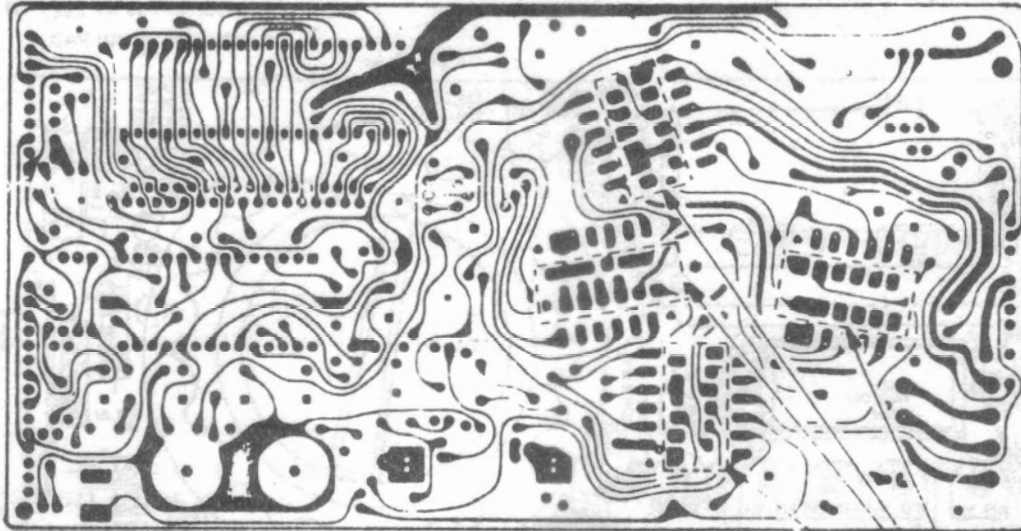
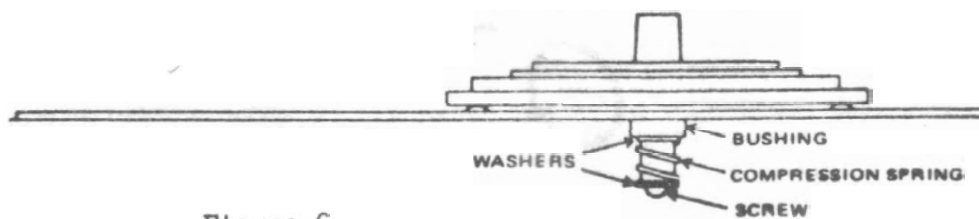

Figure 5
Figure 6
15. Remove all solder flux from the reworked areas with an approved solvent. If the assembly is immersed in an ultra-sonic cleaner or a de-greasing tank, the Function/Range Switch must be disassembled to replace the Cramolin TM (cleaner-lubricant) paste on the switch contact pad surfaces and cam lobes. See Figure 5 and 5a. Note the mechanical sequence of the shaft bushing, flat metal washer, compression spring, flat metal washer, and self-tapping screw for disassembly and re-assembly, if required, to prevent bent and/or broken switch contacts due to improper alignment of the Function/Range switch contacts with the cam lobes. See Figure 6.